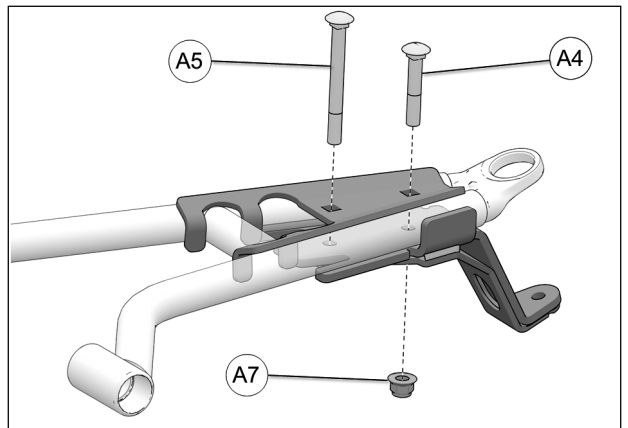

Fig. 17
5. Insert the M10x60mm (A4) and M10x100mm (A5) carriage bolts from the top and secure the two parts together with the nut (A7) provided. Tighten assembly to 50 N•m [37 lb•ft] of torque. See Fig. 17